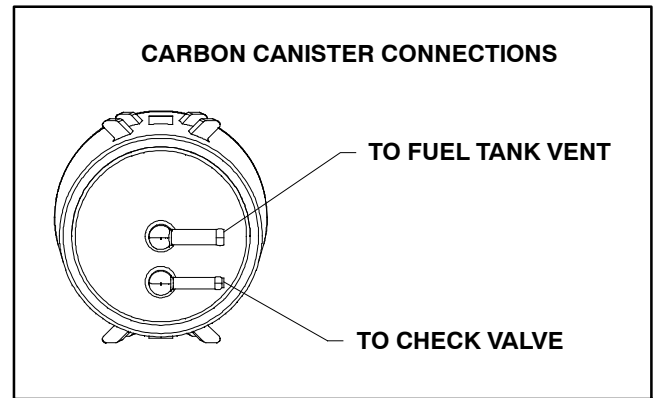

Figure 20
B. If hoses are removed from the carbon canister, note hose location for assembly purposes. Figure 20 identifies hose location.